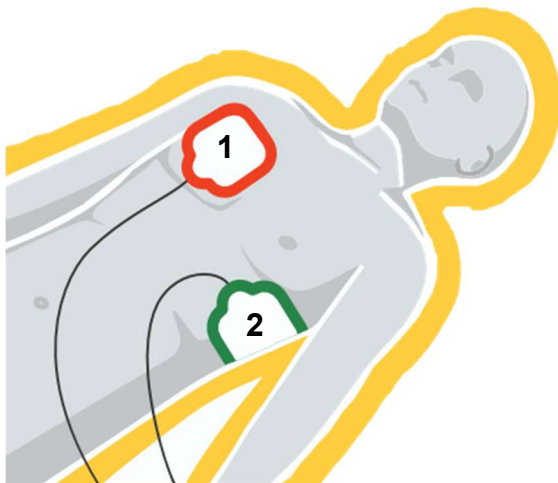
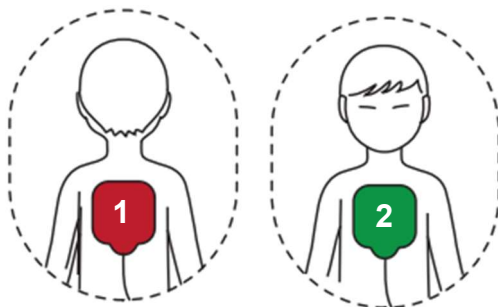

Fig. 13 Position of electrodes on adults
Fig. 14 Position of electrodes on children
- ▶ Remove the protection foil from one of the electrodes and then immediately place the electrodes onto specified position. (Refer to Fig. 13 for adults and Fig. 14 for children)